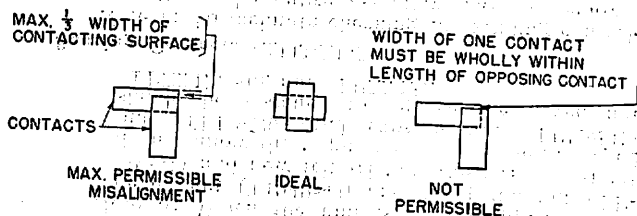

Fig. 75
- (a) The alignment of all contacts should be within the limits indicated in Fig. 75 as gauged by eye. Fig. 75